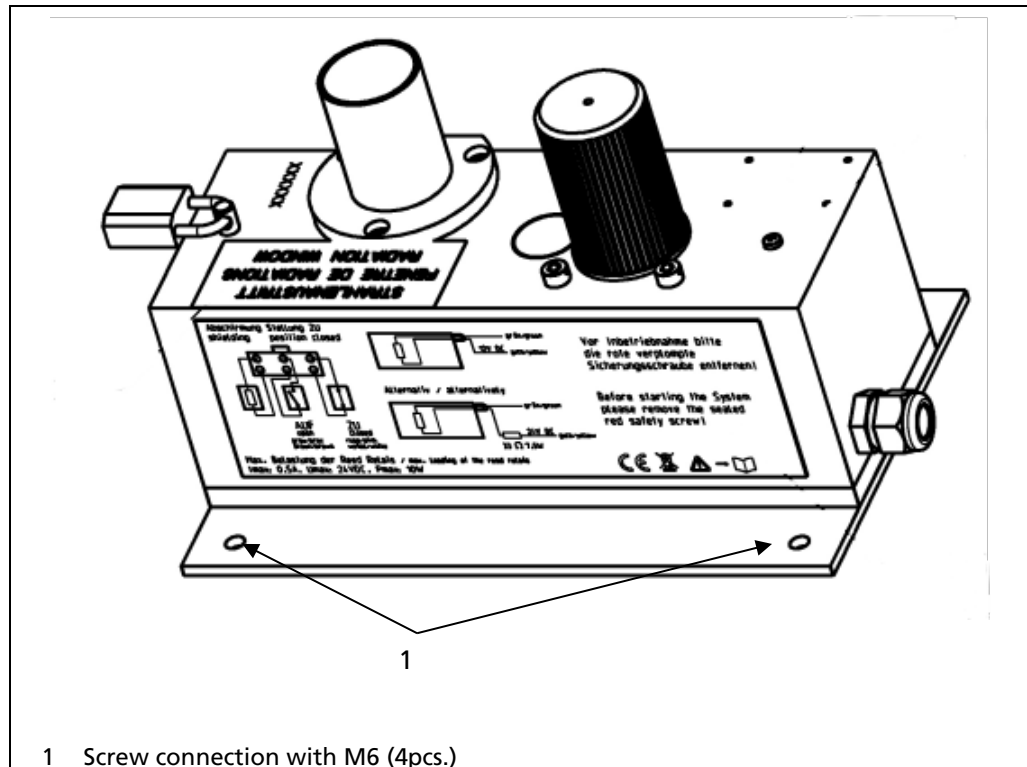

Fig. 6 Mounting on a base
1. Unscrew the two locking screws of different lengths (Fig. 6, Pos.1) and screw them back in, in the exchanged position.
2. Unscrew the key protection cap (Fig. 6, pos. 2). Open the locking bolt with the key (Fig. 6, pos. 3) and screw the key protection cap back on.